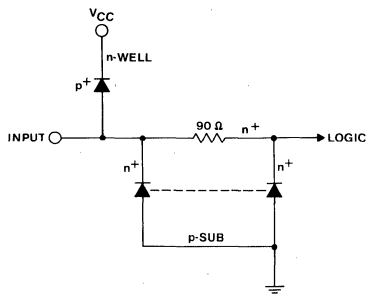

Fig. 4. ACL dual-diode input protection network.
The inputs of the AC/ACT devices have the dual-diode clamping circuit shown in Fig. 4. This circuit serves two important needs. (1) Ringing voltages above  $V_{CC}$  and below ground caused by the RLC interface equivalent circuit are clamped to within one diode drop of  $V_{CC}$  and ground, thereby reducing EMI. (2) Electrostatic discharge (ESD) is shunted away from the gate oxide of input transistors. Between  $-0.5$  volt and  $V_{CC}$  plus  $0.5$  volt (see Fig. 5), the input current is typically under the  $\pm 1$  nanoampere typical leakage of the biased input diodes. Beyond  $-0.5$  volt and  $V_{CC}$  plus  $0.5$  volt, the diodes are forward biased and clamping action begins. The diodes can handle large junction currents ( $\pm 400$  milliamperes for under one second). For continuous clamping action over the operating temperature range, the aluminum input metallization traces are reliably sized for  $\pm 20$  milliamperes as shown in Fig. 5. Note that it is the aluminum traces and not the diode junctions that are the limiting circuit elements.
As mentioned, AC/ACT device inputs have a resistor-diode protection network, shown in Fig. 4, that protects the gate oxide from electrostatic discharge (ESD) damage. The network provides protection to levels greater than two kilovolts in all modes pertaining to the input, as shown in Fig. 6. This two-kilovolt figure was arrived at by the testing of devices in the ESD test circuit shown in Fig. 7 while conforming to the MIL-STD test requirements.